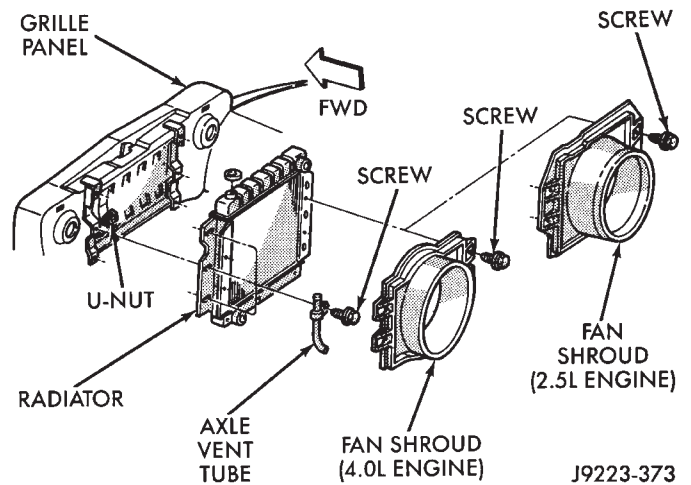

Fig. 3 Radiator and Shroud
- (1) Remove the front crossmember cover.
- (2) Remove the screws and washers, and separate the radiator and shroud from the grille panel (Fig. 3).